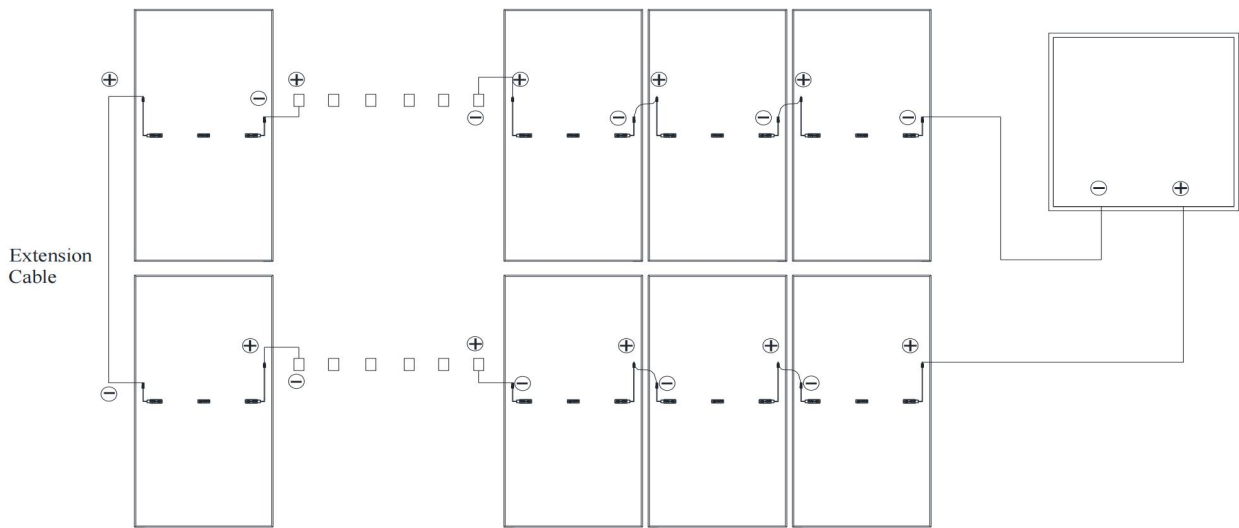

Fig. 9-3 Vertical installation of long cable modules
- ☞ When install modules with long cables, connect it with its own cable length and do not use extended cables, see Fig. 9-3 and 9-4, When connect adjacent modules in different rows or columns, connect cables on the same side and avoid connecting cables along the diagonal line.